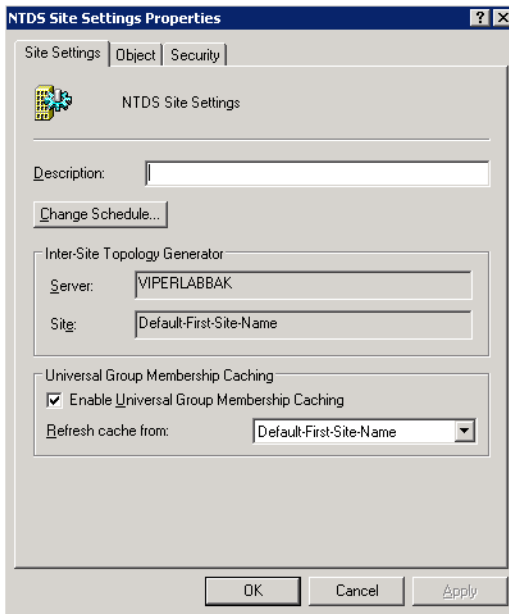

Figure 2-5 NTDS Site Settings
2. From the **Site Settings** tab shown in figure 2-5, select the **Enable Universal Group Membership Caching** option to enable this function on the backup server.